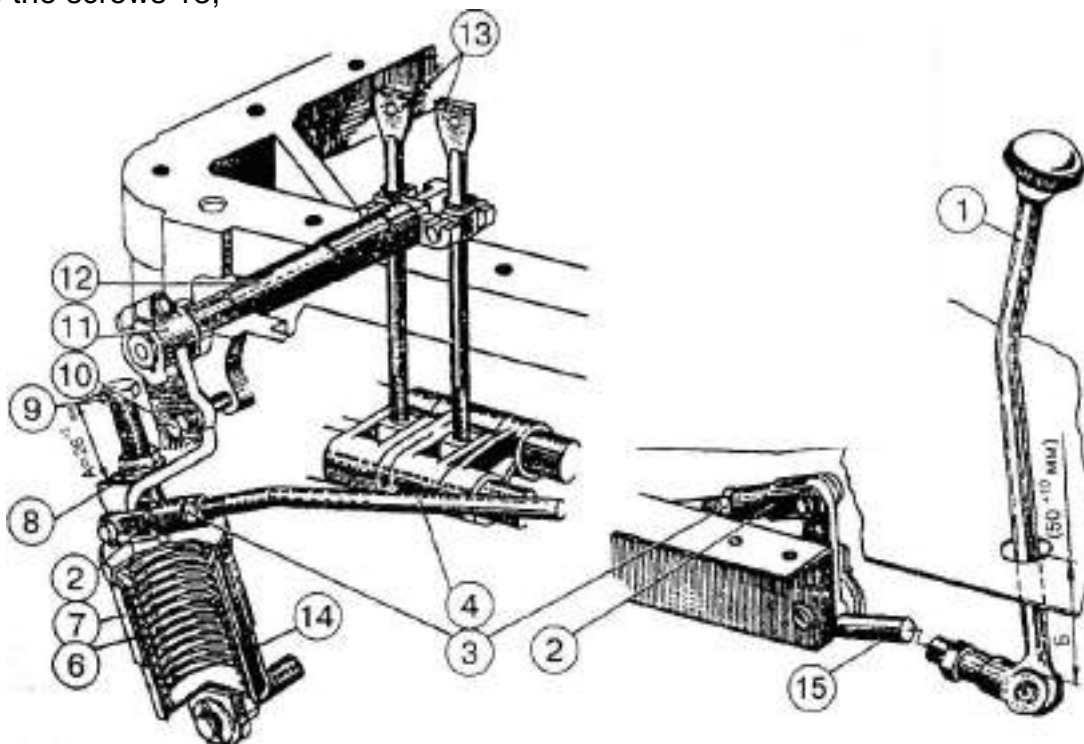
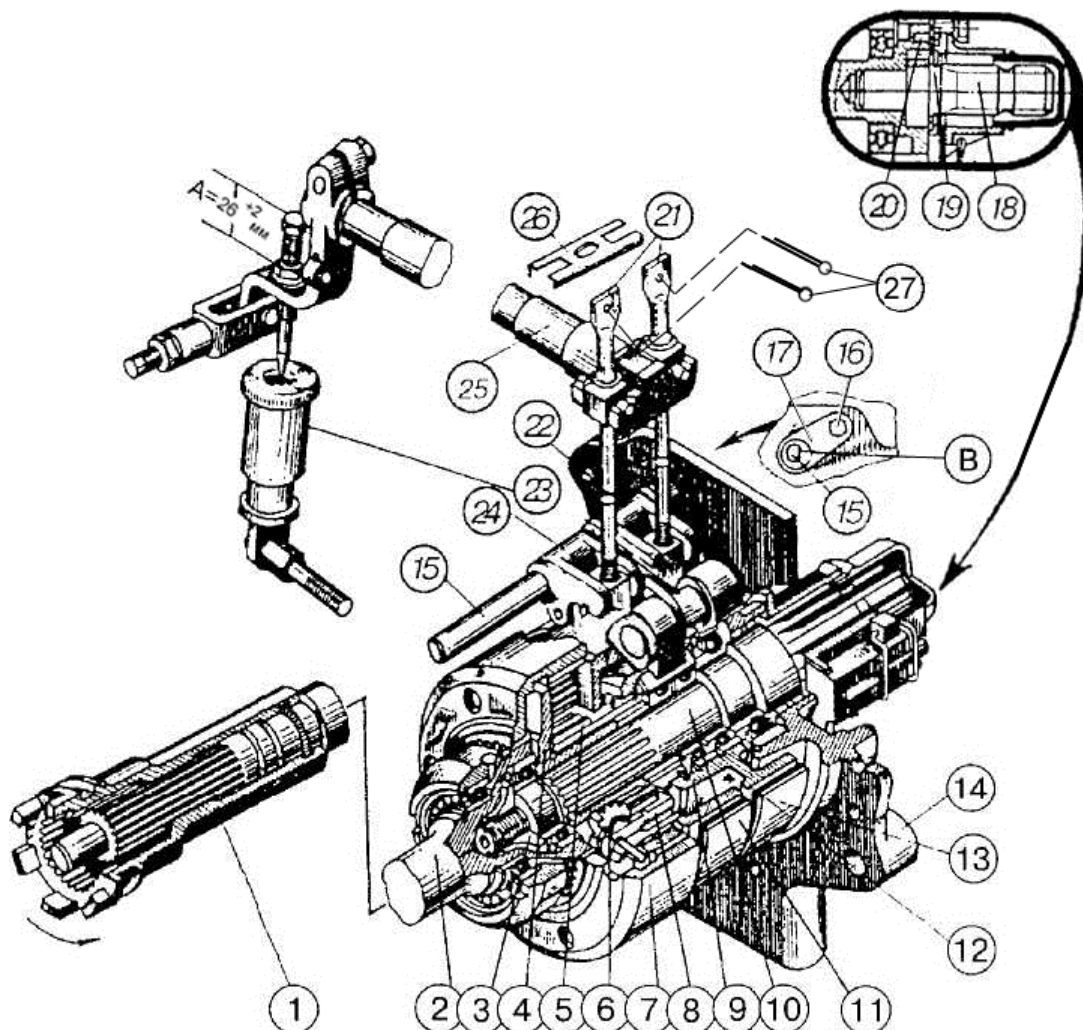

Fig. 1 Rear PTO control:
Fig. 2 Rear PTO planetary gear:
1. Set the eccentric axle 15 to its initial position so that the flat "C" (Fig. 2) be at the right side vertically and fasten it with the lock bar 17 and bolt 16.
2. Disconnect the rod 4 (Fig. 1);
6. Remove the lock bar 26 (Fig. 2), screw in turn the adjusting screws 21 to a torque of 8 to 10 N•m, then unscrew each screw by two turns, at that screw the screws so that the screw heads be parallel to the tractor centerline;
10. Set the rod 4 (Fig. 1) changing the length of the rod 4 and arm 15 adjust the dimension "B" (50^{+10} mm). After adjustment, install the lock bar 26 and splints 27 (Fig. 2) on the adjusting screws 21, the rear axle hatch cover, lock the rod 4 and arm 15 (Fig. 1) as well as the bolt 9.
After several external readjustments, the eccentric axle 15 (Fig. 2) takes the left-most position (the flat "B" is on the left vertically), which indicates that no more reserve of external adjustment is available. In such a case, set the eccentric axle to initial position by rotating it counter-clockwise (the flat is on the right vertically), after that perform adjustments as described for PTO control adjustment for assembly by manufacturer or PTO repair.
When adjustment is correct, the lever 1 (Fig. 1) in the ON position must be at least 50 mm away from the cab floor (dimension "B").
On tractors of earlier make, the PTO external readjustment mechanism may not be available (pos. 15, 16, 17, Fig. 2). In such a case, adjust as specified above for adjustment of PTO control after repair or in assembly by manufacturer. On small-cab tractors, the dimension "B" is 50 to 60 mm. PTO brake efficiency, absence of slipping depends only on the spring mechanism and first of all on